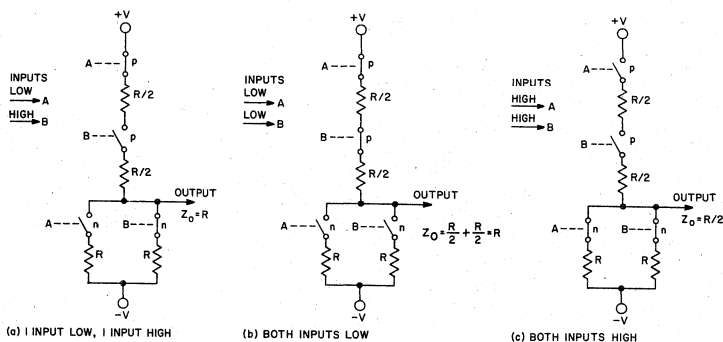

Fig. 4 — Variable output impedance of an unbuffered 2-input NOR gate. The resistors represent the on impedance of a p- or n-channel MOS transistor.
**—Unbuffered—**Fig. 4 depicts the unbuffered 2-input-gate p- and n-channel MOS switches and appropriate on-channel resistances. Note that the two stacked p-channel switches are designed for an on resistance of  $R/2$ , so that the output impedance is  $R$  when both the logic inputs are low, Fig. 4(b). In Fig. 4(a) the output impedance is  $R$  to the negative supply terminal (usually ground) for an input logic state of 1, input high. Fig. 4(c) shows the condition when the unbuffered gate has an output impedance of  $R/2$  for both logic inputs high. Hence the variable output impedance of the unbuffered gate. For a 4-input gate, this variable is  $R$  to  $R/4!$  The maximum output resistance of RCA buffered or unbuffered gates is  $R$ . Thus, minimum  $I_{OL}$  and  $I_{OH}$  specifications for buffered and unbuffered gates are identical.